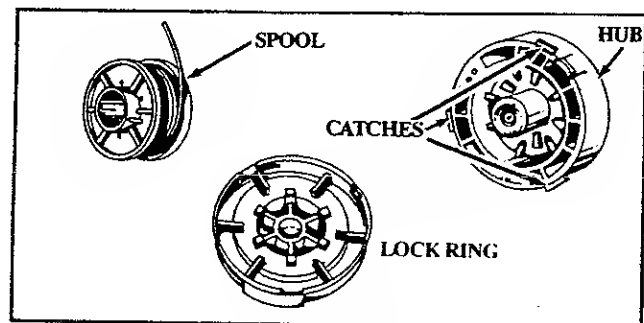

Figure 17
- Remove the Lock Ring and Spool. Figure 17.